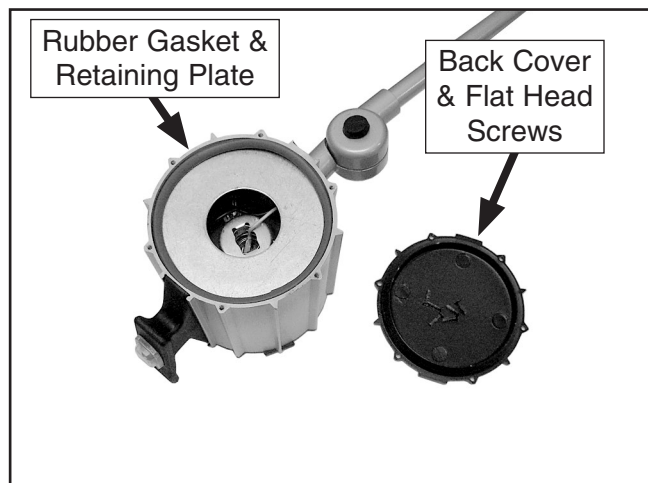

Figure 2. Back cover plate removed from the lamp housing.
2. Remove the six flat head screws from the cover plate on the *back* of the lamp housing, as shown in **Figure 2**.